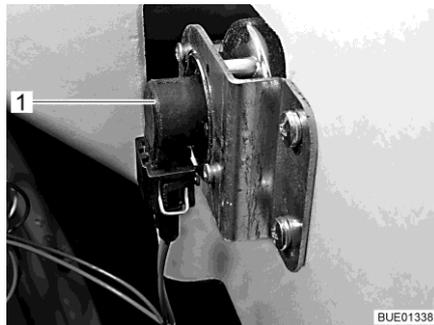

Fig. 164 Direction indicator
- Put your hand behind the lamp holder (Fig. 164,1).